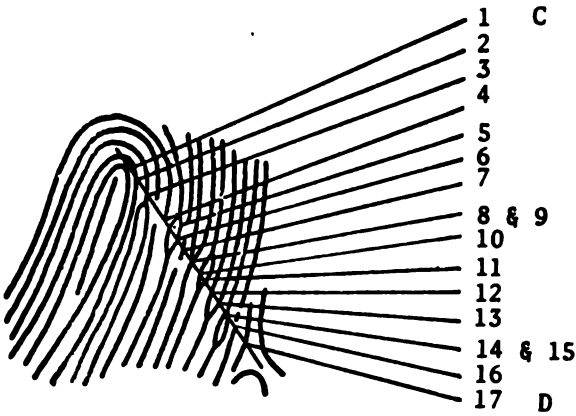
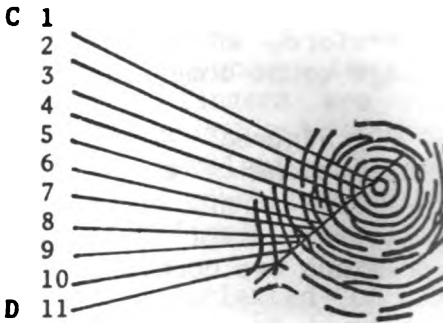

Figure 2.
Figure 3.
b. With the reference line properly oriented on the print, the ridge count is made by counting all of the ridge lines that cross or touch the reference line, starting with the core as ridge count number one and ending with the delta as the last ridge counted. Figures 2 and 3 illustrate this technique on a loop and whorl respectively.
NOTE: In Figure 2, lines 8 and 9 and 14 and 15 received a double count because the reference line crosses at the point where a ridge bifurcates. In keeping with rule number 3, each of the lines formed by the bifurcation receive a count since they touch the reference line. Also notice that lines 5 and 6 and 10 and 11 of figure 2 and ridge lines 8 and 9 of figure 3 are formed by a ridge line bifurcating on one side of the reference line and reclosing on the other side of the reference line. Yet at the point where they encounter the reference line, they are two distinct ridges and each receives a count.